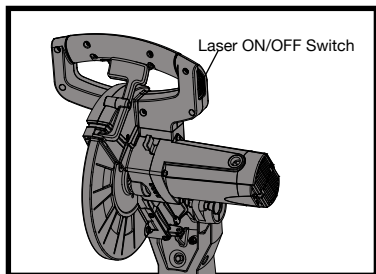

Fig 14
- 5) Press the arbor lock, holding gently while turning the blade counterclockwise. When arbor lock engages, continue to press it in firmly while tightening the arbor bolt securely. (See fig. 14)
Your tool is equipped with the Laser guide cutting guide using a Class II laser beam. The laser beam will enable the operator to preview the saw blade path on the stock to be cut before starting the saw. This laser guide is powered by the transformed alternating current supply directly through the power lead. The saw must be connected to the power source and the laser on/off switch must be turned on for the laser line to show. (See fig.14)